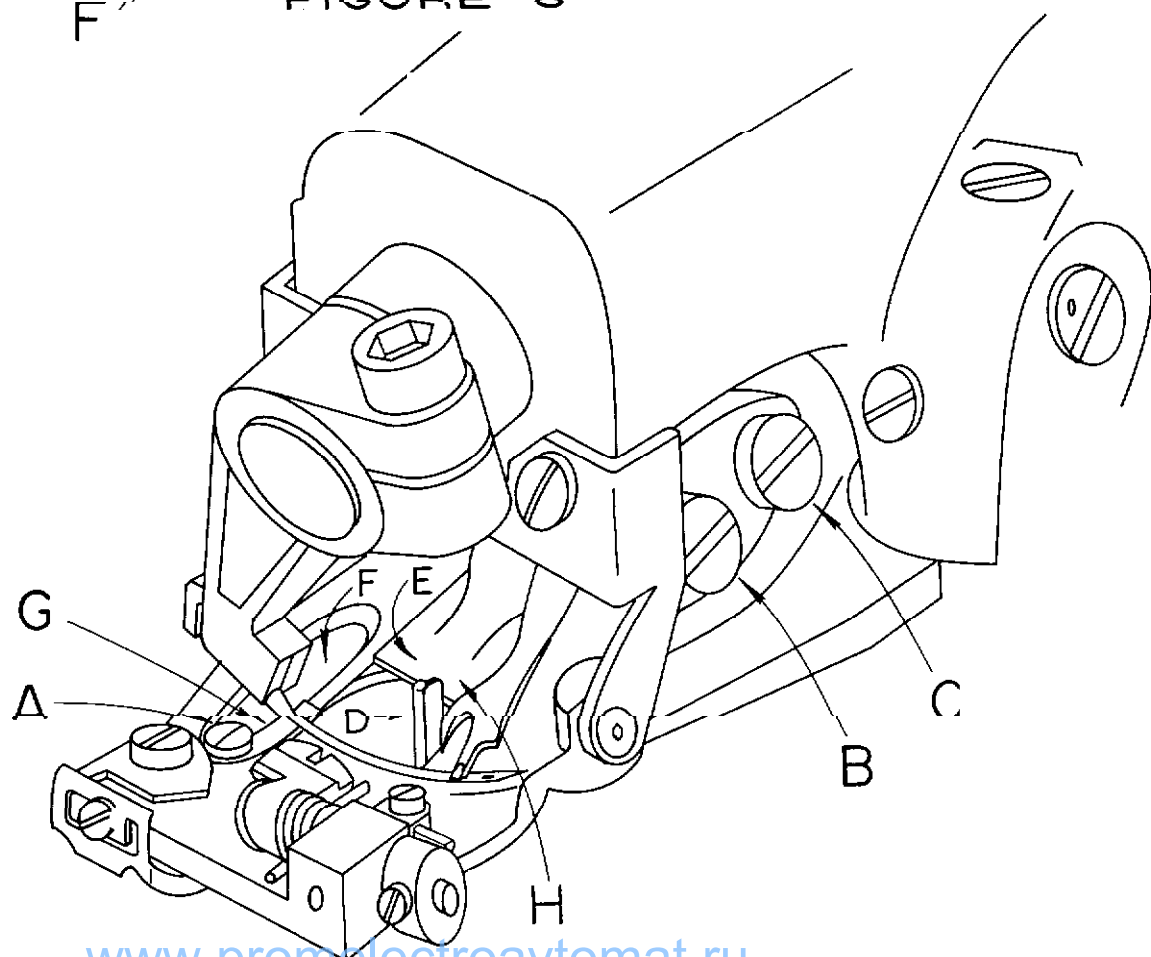
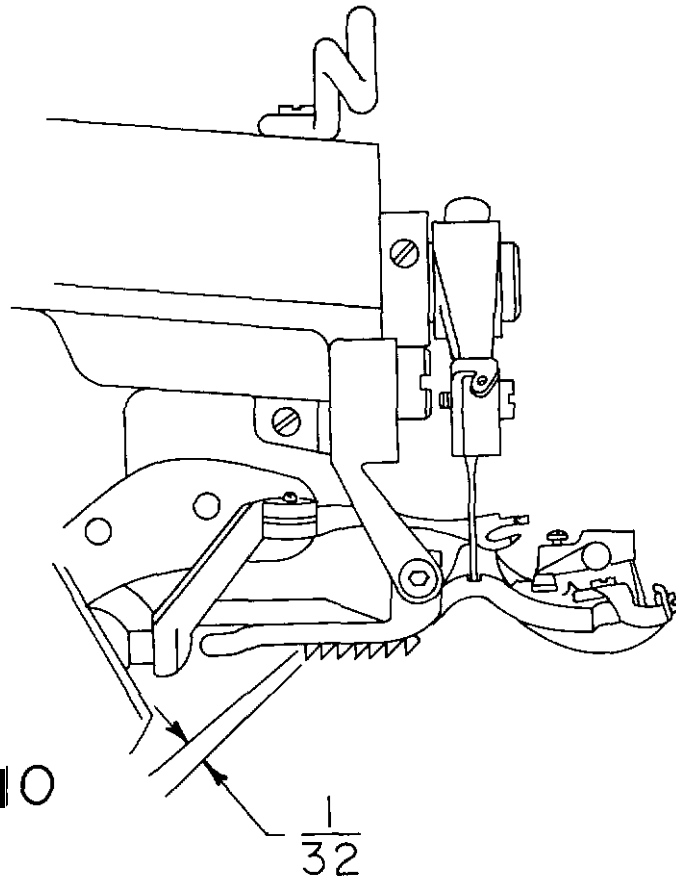

FIGURE 9
FIGURE 10
9. After all the necessary adjustments have been made, tighten all set screws and the lock nut and recheck all the adjustment points. Referring to Figure 9, the looper should now clear the chain-off pin ("D"), feeder ("E"), looper slot ("F"), needle, and pass over the needle in the correct position to pick up the loop.
1. After considerable service, it may be expected that the wearing action of the needle will cause a sharp edged groove to form on the needle guide (item "G" in Figure 9).
2. Loosen the needle guide attaching screw (item "A" in Figure 9) and remove the worn needle guide. Clear out any lint or dirt that may have accumulated under the old guide and insert the new guide. Insure that the new guide is seated flush with the top and side of the presserfoot and then retighten the attaching screw. Slowly turn the handwheel in the direction away from the operator and check to insure that the new guide fits properly under the needle and that no interference has been introduced between the guide and the looper.
1. In the event that the machine develops difficulty by failing to properly feed the work, a worn feeder is frequently found to be the cause. After considerable service, especially with certain hard fabrics, the feeder teeth have a tendency to become dull, and the feeder should be replaced. In order to remove the old feeder, remove the front feeder attaching screw (item “B” in Figure 9) and loosen the rear feeder attaching screw (item “C” in Figure 9). The old feeder may then be slid out of place. Insert the new feeder under the rear screw and replace the front screw.
2. Before tightening the attaching screws check to see that the feeder is set to the proper depth. Referring to Figure 10 this should be approximately $\frac{1}{32}$ " (.795mm) below and parallel to the bottom of the presserfoot for all light and medium weight fabrics. For heavy fabrics, the setting should be approximately $\frac{1}{16}$ " (1 .59mm) below and parallel to the bottom of the presserfoot. These dimensions are intended as guides and may be modified as required by the specific fabrics. Once the proper depth is established, rotate the handwheel slowly in a direction away from the operator and check to insure that the feeder clears the looper (see Figure 9, Point “H”) and also clears both sides of the feeder slot in the presserfoot. Firmly tighten feeder attaching screws (Figure 9, Items “B” & “C”) before resuming sewing.